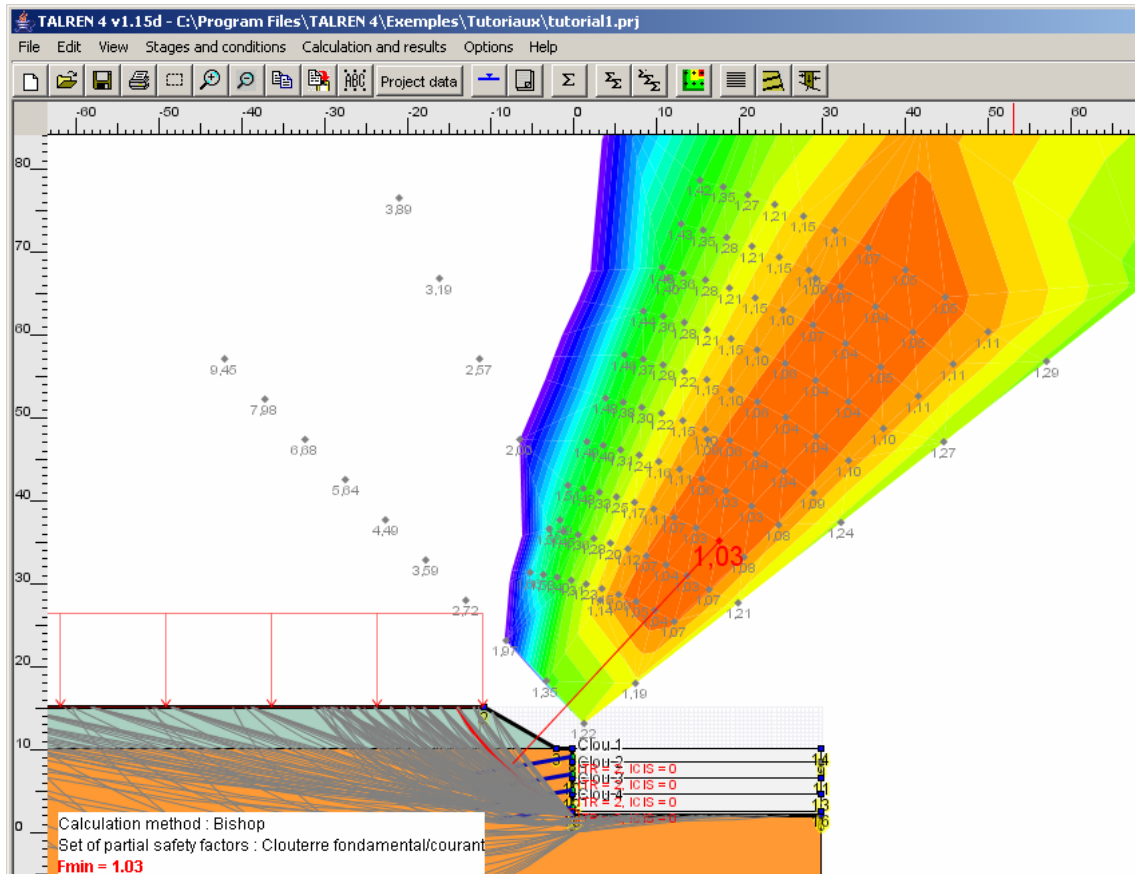

Figure 111: display of colour shadings and reinforcements design criteria
- Isovalues (colour shadings, Figure 111): here also, a range of safety factor values can be defined;
- Indications on the design criterion for the reinforcements (Figure 111): this display, if requested, consists in texts "ITR = xxx; ICIS = xxx". These codes and their legends (usual reinforcements codes in Talren) can be viewed from the dialogue box for detailed reinforcements results, refer to section 5.3.5).